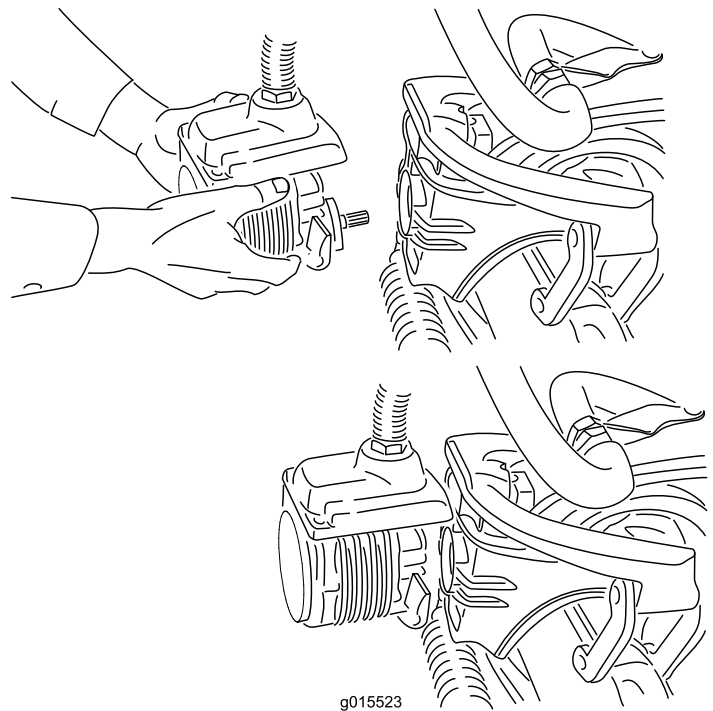

Figure 37
4. Move the motor to the storage location on the front of the suspension arm (Figure 37).